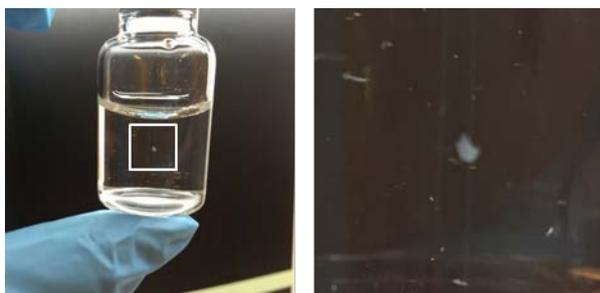
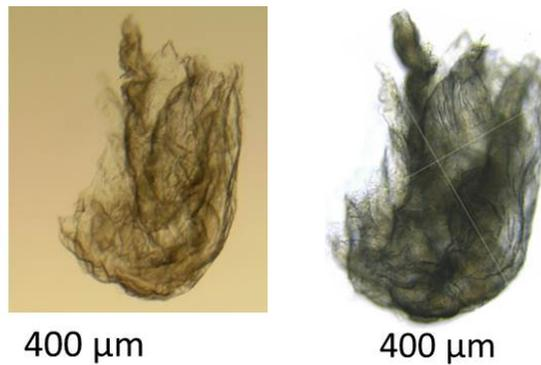

Fig.1: Photograph of the visible protein aggregate in the container. The image on the right is a zoom-in of the section indicated by white frame on the left.
Fig.2: Left: *In situ* photograph in the closed vial; Right: SPE 50x photograph of the visible protein aggregate in the wet-dispersion.AID.
Protein aggregation was induced by introducing an acidic tungstate solution to a protein solution. A small portion of the mixture containing a visible particle was then withdrawn with a pipette and transferred into a vial with particle free water. A picture of a particle in the vial was then taken with a photo camera (Figure 1). Inverted microscope was then used to capture a picture of the particle *in situ* (Figure 2). A portion of the solution (100 μ L) containing the visible particle was withdrawn with a pipette and deposited into the wet-dispersion.AID. Sample was covered with a glass window and introduced to the Single Particle Explorer. Particle was manually located and photographed with 50x objective (Figure 2). Raman Spectroscopy was performed on the particle with 532 nm laser excitation, laser power of 100% and integration time of 30s. Particle spectrum matches reference spectrum of a protein with a rank value of 882.
- In our example a visible particle was photographed *in situ* and transferred to a wet cell. Image of the particle taken with SPE is identical to *in situ* image as can be seen in Figure 2.